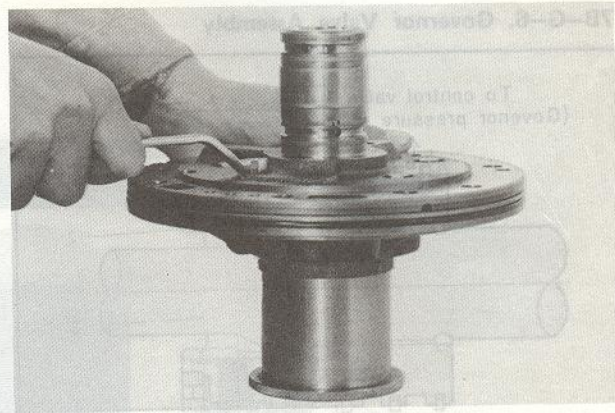

Fig. 7B-47 Assembling oil pump
1. Fix the pump housing to the oil pump assembling guide (49 0378 405) and fit the inner gear and outer gear in the pump housing as were installed in original. Then fit the pump cover as shown in Fig. 7B-43 and tighten it temporarily with five bolts.